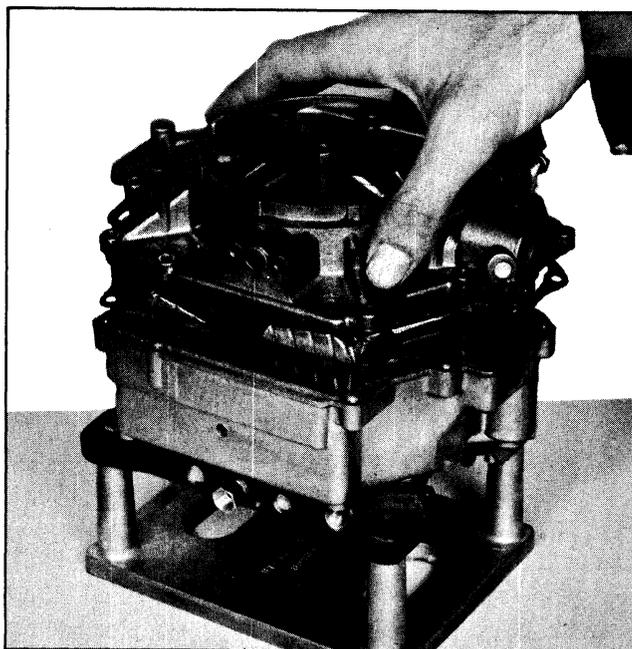

Fig. 8-92 Removing Air Horn
12. Carefully lift the air horn straight up until the float assembly is clear of the carburetor body. (See Fig. 8-92)